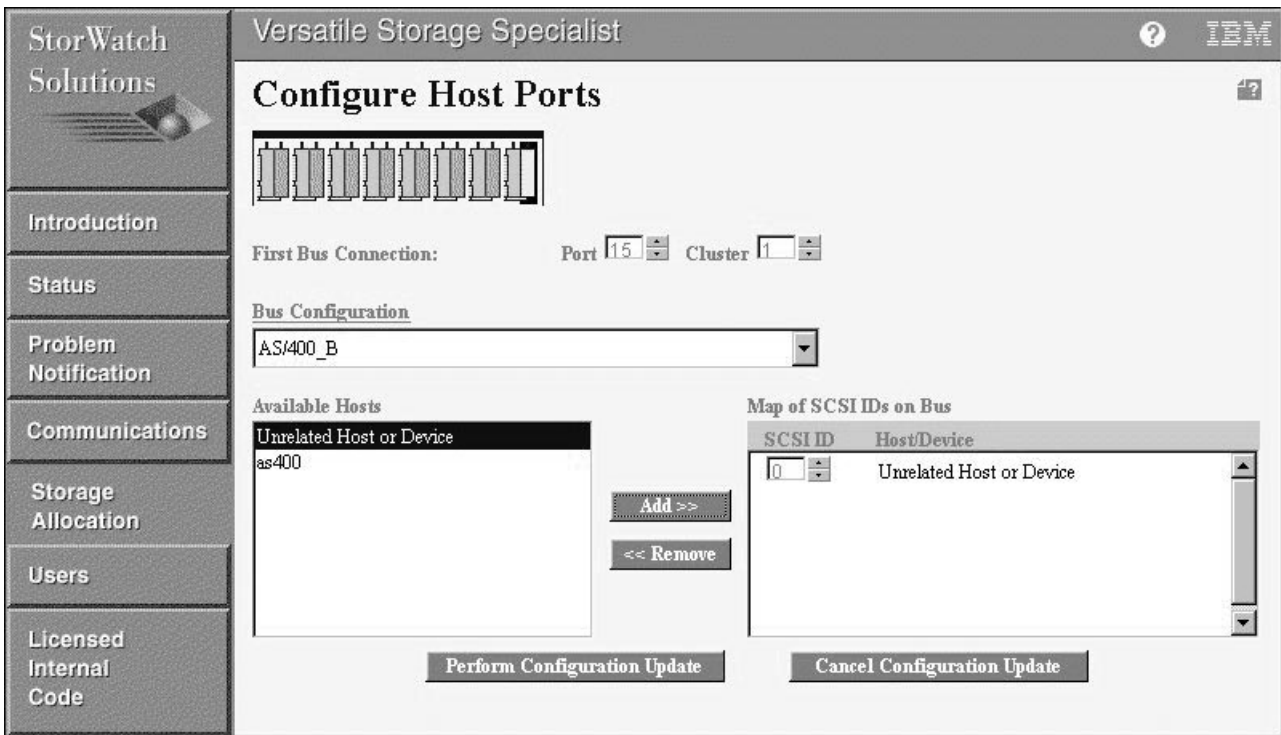

Figure 51. Changing Volume Affinity
8. Select a SCSI ID for this Unrelated Host or Device entry. We recommend not using ID 7. The first ID that appears is the best (probably the number zero). See Figure 51 on page 72 for an example.